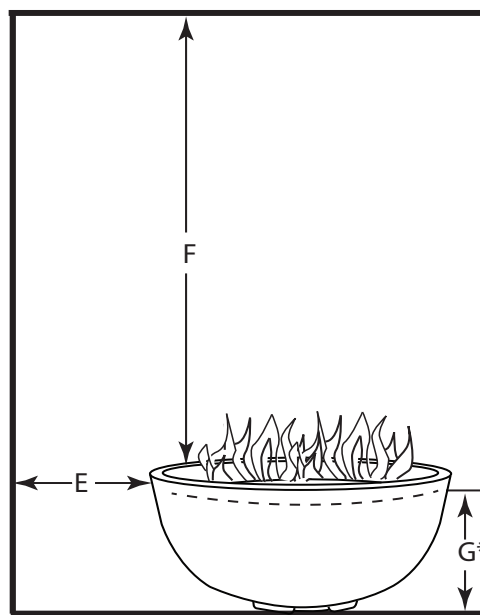

Fig. 2. Clearance to Combustibles
* Dimension shows disc/pan from combustible floor sitting inside the Sanctuary bowl (See Fig. 2).